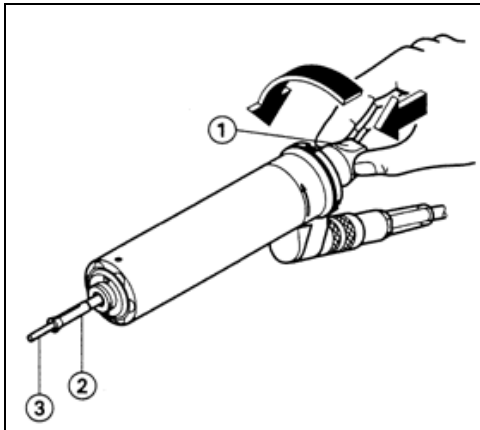

Figure 11.4
As shown in Fig. 11.4, press the knob on top of the motor ① and simultaneously insert the cutter clamp ② into the clamp mounting. The pin inside the clamp mount must be aligned with the channel on the cutter clamp ②. (The user may rotate the cutter clamp ② until it is in the right position).